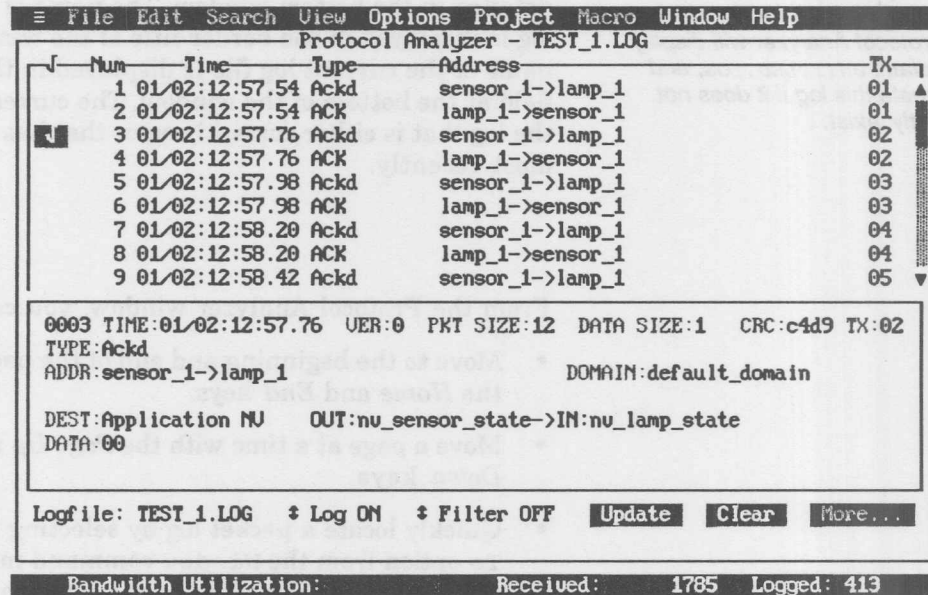

Figure 12-3. Sample Protocol Analyzer Window
- 5 Select the List button to open the Protocol Analyzer window (see figure 12-3) with the logged packets, if any, listed in the top window, and with the first logged packet detailed in the bottom window. The name of the selected log is displayed in the border title of the window. The name of the current log file is displayed in the LOGFILE field at the bottom of the window. The current log file is the log that is either currently on or that has been on most recently.
In figure 12-3, the selected packet was sent from sensor_1.nv_sensor_state (where sensor_1 is the node and nv_sensor_state is the network variable) to lamp_1.nv_lamp_state. To examine a different packet in detail, select it. The bottom of the Protocol Analyzer window displays the detailed information about the selected packet.
F5 is the accelerator key that opens the Protocol Analyzer window. To open this window at any time and view the current packet log, press F5. The Protocol Analyzer window opens (see figure 12-3, earlier) with the contents of the current packet log displayed. The current packet log is the log that is either currently on or that has been on most recently. If you open the Protocol Analyzer window using the accelerator key (F5), or the Window pull down menu key, and you have not previously selected a packet log, the protocol analyzer will display the default UNTITLED.LOG, and will create this log if it does not currently exist.